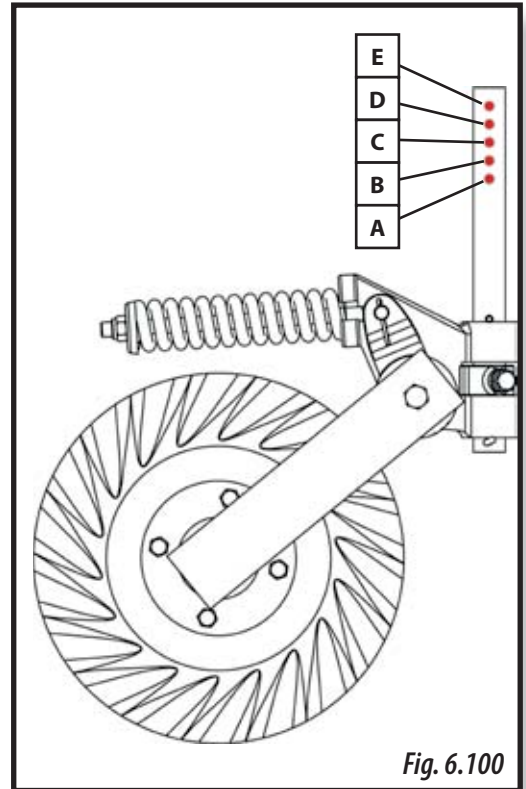

Fig. 6.100
- 4- Place the pin (1, Fig. 6.101) in the desired hole (Fig. 6.100 to fix the position.